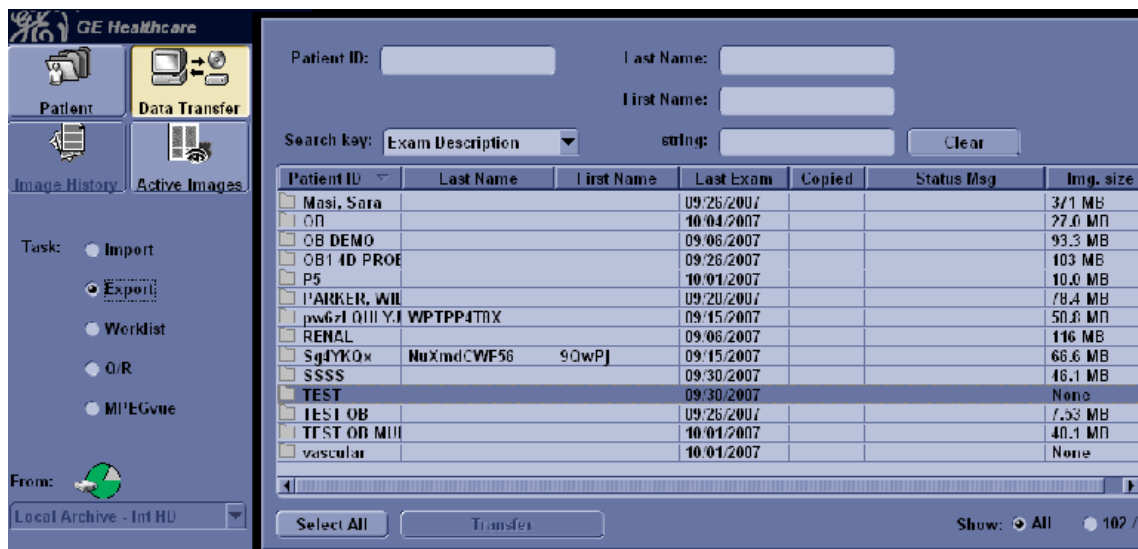

Figure 8-163 Source Section
- 5.) Once you have selected all of the patients to export, press Transfer Button as shown in Figure 8-163 on page 8-121 from the Patient Menu.